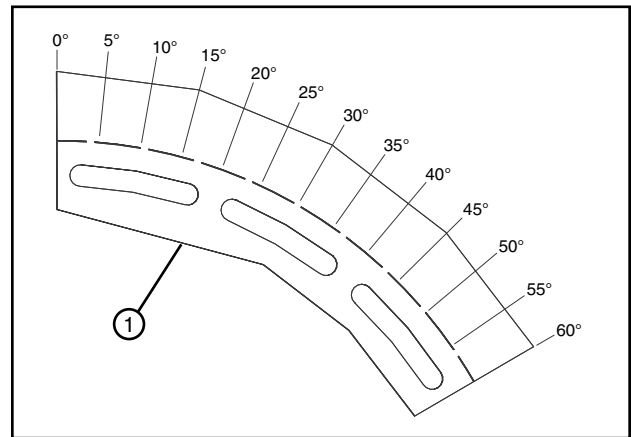

Figure 47-2 1. End Gun Control Ramp
1. Adjust end gun control ramps for range of operation. Cut the web between ramp tab and mounting tab as needed depending on the range of end gun operation desired. End gun control ramps may be positioned end to end for longer arcs. See figure 47-2.